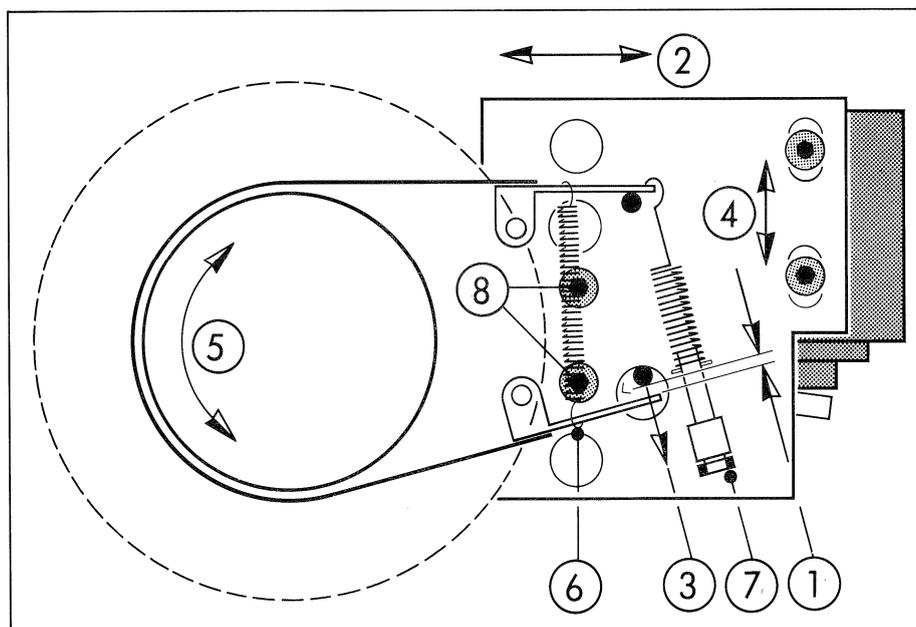

Fig. 16 Brake assembly
- The clearance [1] between the brake lever and the lifting pin should be 1 to 1.5 mm, see Fig. 16.
- Hook a spring dynamometer 0 to 5 N (0 to 500 p) into a loop at the start of the tape; the retarding torque can be set to the value specified in the following table by changing the spring [6] position according to Fig. 16.
- Hook a spring dynamometer 0 to 25 N (0 to 2.5 kp) into a loop at the start of the tape; then pull slowly and smoothly. The retarding torque can be adjusted by turning the hexagon pin [7], Fig. 16 to the value specified in the table.